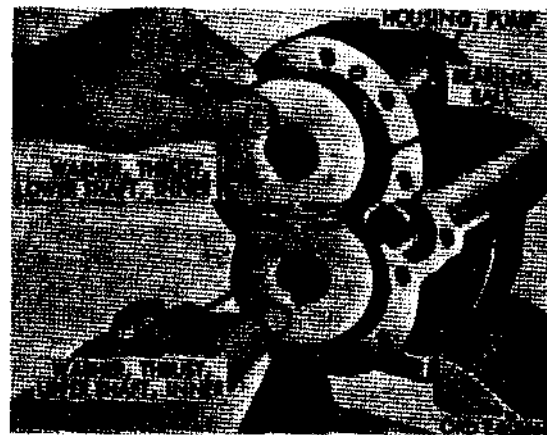

Figure 87. Removing upper and lower shaft inner thrust washers
- (c) Remove upper and lower shaft inner-thrust washers from inside of pump housing (fig. 87).
- (e) Remove the two ball bearings (fig. 87) from rear of pump housing.
(1) Cleaning.
(1) Install pump upper and lower shaft assemblies.
- (a) Install the two ball bearings located inside and at rear of pump housing (fig. 87).
- (b) Aline upper and lower shaft inner-thrust washers (fig. 87) so that they will be installed in housing in the same position from which they were removed, in accordance with paragraph 80a.